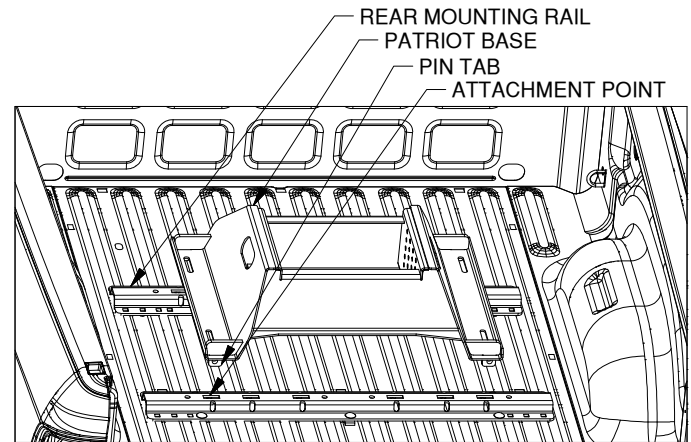

Figure C1: View into truck bed looking towards tailgate.
1. **Position the forward mounting rail.** For this step the base which will be used in the mounting rails is required. Place a mounting rail into the truck bed in front of the rear mounting rail. Place the base over the rail attachment points and carefully lower it until the pin tabs pass through the attachment points on the rear mounting rail. Attach the forward mounting rail to the forward mounting points on the base. The base should rest flat against the top of the rails, See figure C1. With the base still attached ensure that the forward rail is centered in the truck bed.